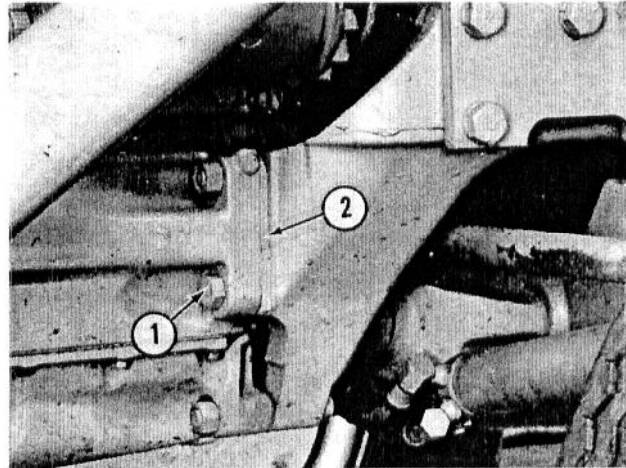

Fig. 8 — ENGINE AND FRONT AXLE SUPPORT ATTACHING POINT (Gasoline Models)
- j. Remove the bolts that secure the engine and front axle support to each other. See Fig. 8.